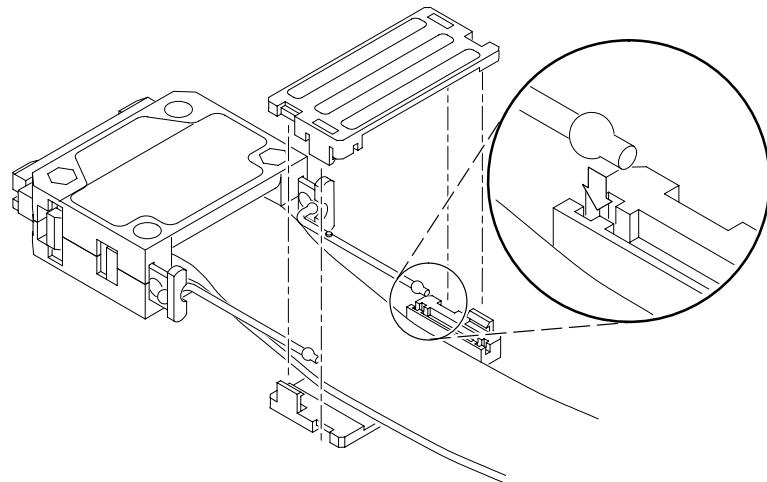

Figure 11: Reconnecting the latch release cords to the latch release grip
3. Place the other end of the latch release cords into the latch release grip and reconnect the latch release grip as shown in Figure 11.